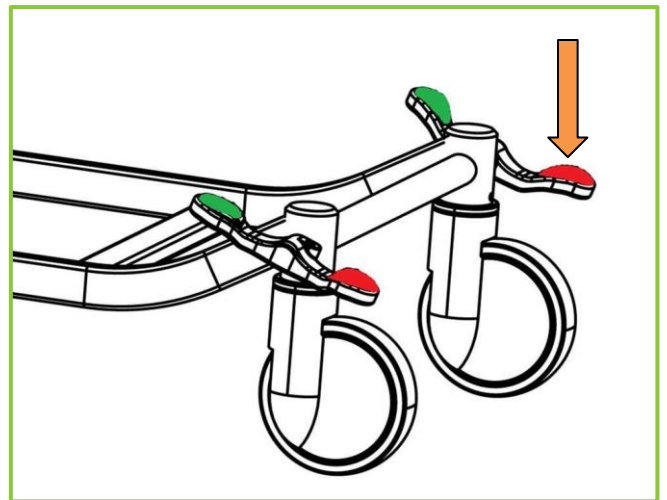

Figure 30 – Brake locked
1. To lock the central brake, press the rear red part of the foot lever down until the brake locks. Figure 30 shows the brake locked.